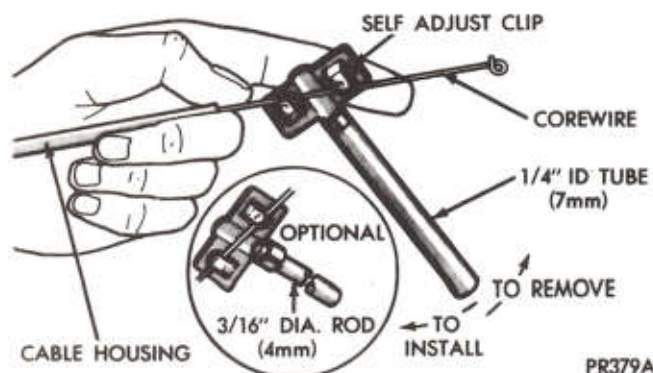

Fig. 4—Removing or Installing Self-Adjust Clip
(5) Detach cable from unit by removing self-adjust clip from crank arm and flag from retainer.
(6) Remove cable assembly through glovebox opening.
(7) Place a 7mm (1/4 inch) I.D. tube over clip and pry self-adjust clip off core wire if required (Fig. 4).
(1) Position self-adjust clip on cable core wire 50mm (2 inches) from the small loop at evaporator assembly flag end. With a 7mm (1/4 inch) I.D. tube, snap self-adjust clip on core wire (Fig. 4).
(2) Install cable assemblies through glovebox opening.
(3) Attach self-adjust clip to crank arm and install flag in receiver on evaporator assembly.
(4) Install flags in retainers and attach cable to control lever on control unit.
(5) Install control unit into instrument panel and secure with two (2) mounting screws.
(6) Install faceplate (see "Faceplate Installation").